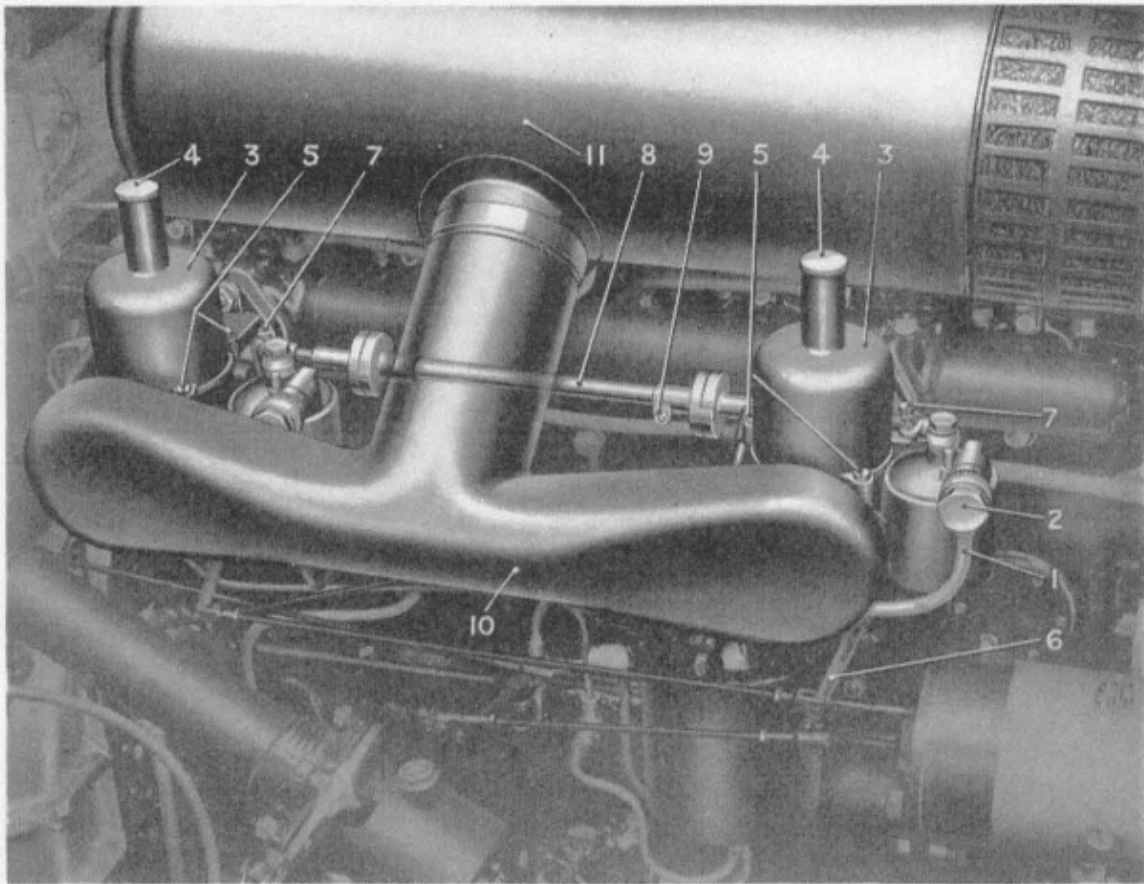
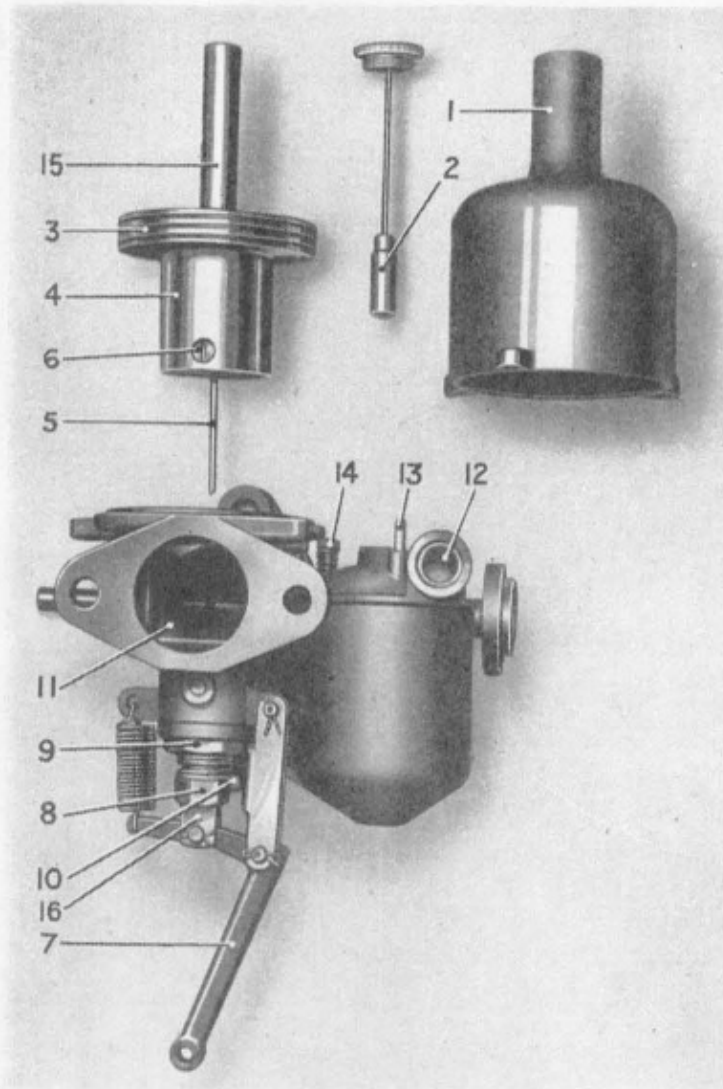

Fig. 13. CARBURETTERS IN POSITION ON ENGINE.
Fig. 14.—CARBURETTER—EXPLODED VIEW.
In addition a small gauze strainer, shown at (12, Fig. 14), is arranged on each carburetter. These should be removed and cleaned every 20,000 miles, as directed on page 33.
Removal is effected by unscrewing the two union nuts (2, Fig. 13). The strainer gauzes can then be removed and cleaned in petrol.
Two carburetters of the S.U. controllable jet type are fitted as shown in Figs. 13 and 14, one being shown in section to illustrate the principal parts.
from cold. The damper consists of a small cylindrical brass plunger (2, Fig. 14), attached by a thin steel rod to the oil cap nut (4, Fig. 13). Inside the plunger is a one-way ball valve which seats in an upward direction. The plunger is a free fit in the hollow guide rod of the automatic air valve piston, the chamber being filled with a thin oil. The action of the device being as follows:—
Every month, as directed on page 30, the oil reservoir cap nut (4) (Fig. 13), should be unscrewed and the plunger withdrawn, *great care being taken to avoid damage to the plunger rod by bending*, the reservoir should be topped up, if required, with the recommended oil, so as to maintain the level of the oil to the
If it is suspected that the automatic air valve is not working correctly, the air intake (10, Fig. 13), should be removed, and a check made by lifting the piston with the fingers, when it should be noted that the piston falls quite freely on to its seat when released.
If any sticking or sluggishness is apparent, it will be necessary to dismantle the air valve assembly; first remove the hydraulic piston damper, next remove the three screws (5, Fig. 13), and lift off the cylinder (3). The piston valve can be then lifted out, *the utmost care being taken not to bend or damage its depending needle valve* (5, Fig. 14), *or to bruise the valve in any way*. The valve, cylinder and guide, should be carefully wiped with a piece of clean cloth dipped in petrol, and the piston rod ONLY lubricated with a few drops of thin oil.
The suction disc (3, Fig. 14), does not touch the walls of the cylinder, there being a small clearance, and it is centralised solely by the piston rod working in the guide. Therefore, any sluggishness in movement is probably due to dirt in the guide, or on the cylinder walls.
The needle valve is secured in position by means of a grub screw, (6, Fig. 14), and if it should be necessary to remove this, as, for instance, when replacing an accidently damaged needle, it must be particularly noticed that the location of the valve is determined by a shoulder. The valve should be pushed into the piston until this shoulder is just flush with the lower face and the grub screw tightened.
The quantity of mixture for slow running is determined by means of an adjustable screw stop on the front carburetter (7, Fig. 13), which limits the closing movement of both throttles. This is so adjusted that the engine will idle slowly but reliably when the hand throttle lever on the steering wheel is set right to the bottom of its range and the accelerator pedal released. The stop on the rear carburetter is normally inoperative, and is only used to help initial adjustment.
Re-adjustment of the jets, and of the control shaft between the carburetters, should not normally be required. If, however, the whole adjustment has been disturbed, first adjust the throttles so that both carburetters function equally at "fast idle". An indication that both pistons have risen can be felt by depressing the top of the piston guide rod (15, Fig. 14) by means of a small rod inserted through the top of the cylinder (3, Fig. 13), after removal of the oil cap nut and hydraulic piston damper (4, Fig. 13). The jets should then be adjusted subsequent to this operation, as described below.
The mixture control lever on the steering wheel operates to raise or lower the actual fuel orifice or jet, through the medium of the levers (6, Fig. 13.). Raising the jet causes the taper needle to sink further into the orifice, so weakening the mixture. Conversely, lowering the jet enriches the mixture. This control is only intended to provide a means of strengthening the mixture for starting from cold, for normal running the jets must be in their highest position, the back of both the jaws (16, Fig. 14), abutting against the adjustable stops (8, Fig. 14), simultaneously.
With the engine warm, the control rods should be disconnected from the ends of the levers (6, Fig. 13), and the latter pushed up until the jaws (16, Fig. 14), are against the stops (8, Fig. 14). Then, with the engine running, the stops should be manipulated until the engine runs regularly. Any sign of "hunting" is due to the mixture being too rich, and one or both of the stops must be screwed further in and the lever pushed up so that the jaw is against it.
If it is required to dismantle the float chambers, it will be most convenient to remove them bodily—after removing the fuel pipes—by unscrewing the hexagon plugs (10, Fig. 14), which secure each to its carburetter body.